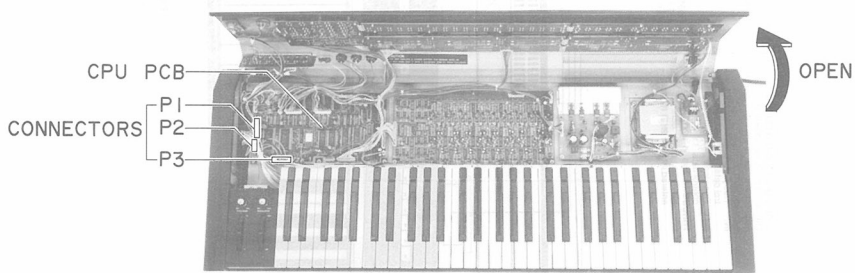

Fig. 2-2
- 2) Open the Front Cover as shown in Fig. 2-2.
- 2) Then disconnect the connectors P3 on CPU PCB for the Keyboard Block and P1 & P2 for the Bend Panel Block. (Refer to Fig 2-2)